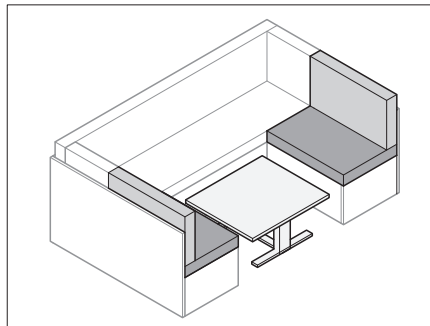

Fig. 66 Converting the table
- Convert the table (Fig. 66) into a bed foundation (see Section 7.7).